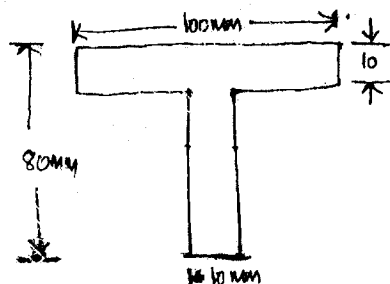

Fig.Q3(c)
- c. Determine the buckling load for a strut of Tee section shown in Fig.Q3(c). The strut is 3.0mt long and is hinged at both ends. Take  $E = 2.00 \text{ GN/m}^2$ . (06 Marks)